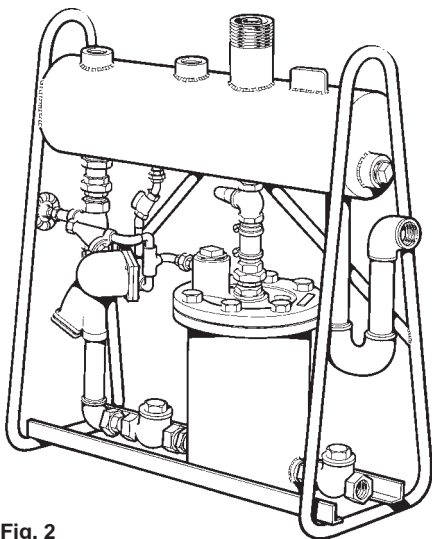

Fig. 2
2. Packaged pump unit (Fig. 2)
Fig. 2 shows the unit when steam will be used as the operating medium.